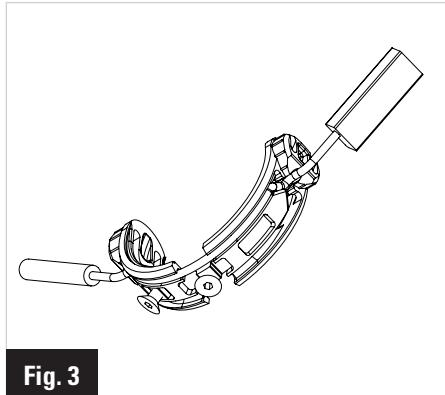

Fig. 3
- 3- Install the cable guides in the bottom bracket. Only the rear electric wire must run through the bottom bracket. Fit the liner guides ②, locking the wire into the internal grooves (fig. 3), then tighten the flange ① using the screws ③ .
- 5- Install the electric wire guide ⑥ at the rear chainstay exit.
- 6- Stick the LOOK ⑦ sticker onto the cap. Clean and degrease the surface for optimum glueing.